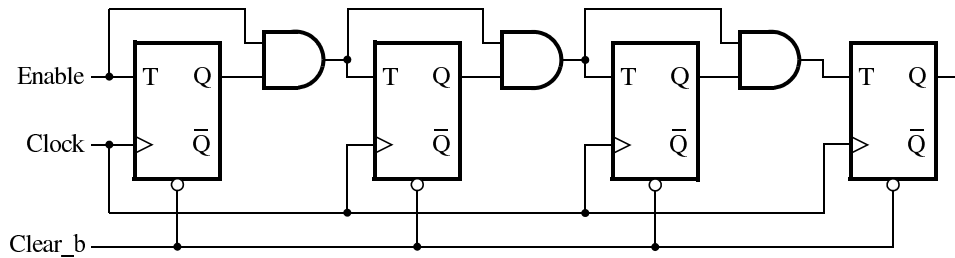

Figure 1: A 4-bit counter.
Consider the circuit in Figure 1. It is a 4-bit synchronous counter that uses four T-type flip-flops. The counter increments its value on each positive edge of the clock if the *Enable* signal is asserted. The counter is reset to 0 by setting the *Clear\_b* signal low – it is an **active-low asynchronous** clear. You are to implement an 8-bit counter of this type.
1. Draw the schematic for an 8-bit counter using the same structure as shown in Figure 1. **(PRELAB)**
7. Use the Quartus II RTL Viewer to see how the Quartus II software synthesized your circuit. You can access the RTL viewer on Quartus via `Tools -> Netlist Viewers -> RTL Viewer`. You can zoom into the various building blocks of your circuit by double-clicking on them, to get more information about their implementation. What are the differences in comparison with Figure 1?